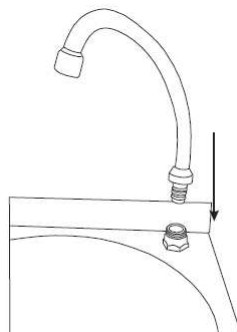

Fig. 1
- Install the swiveling tap in the basin, at the place indicated in figure 1.